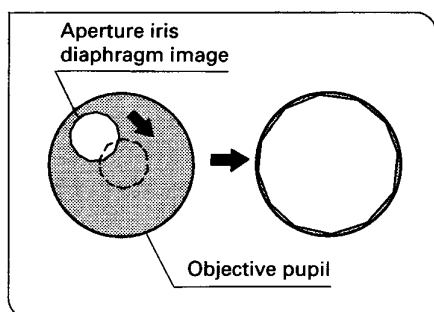

Fig. 22
4. To check centration, open the field iris diaphragm until its image touches the perimeter of the field of view. If the image is not precisely inscribed in the field of view, center again. (Fig. 22)